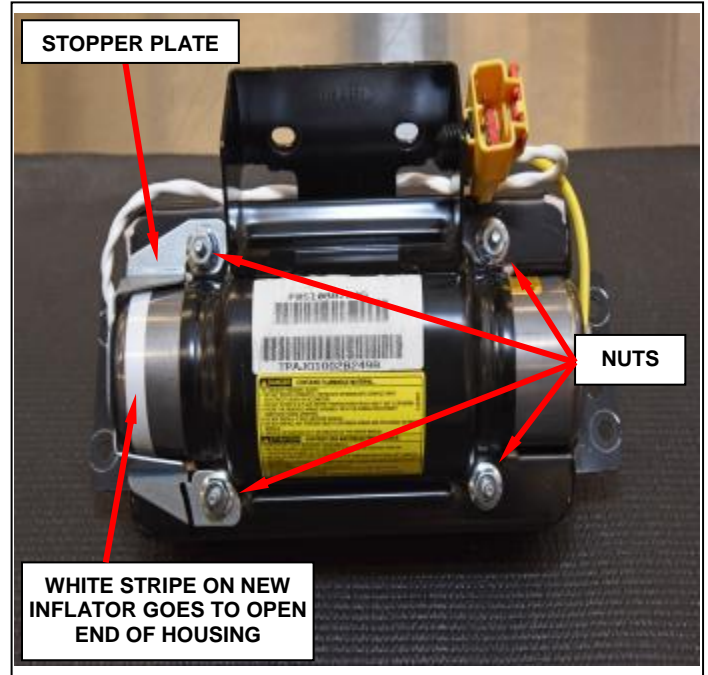

Figure 45 – Stopper Plate and Nuts
- i. Position the stopper plate to the airbag housing (Figure 45).
- j. Install the four **NEW** mounting nuts to the airbag housing and tighten to 53 in. lbs. (6 N·m) (Figure 45).